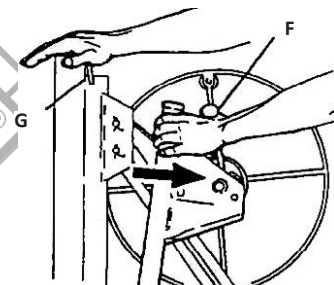

FIG. 4
- Place your right hand on top of the frame. Continue to grip the brake arm as necessary to prevent cable backlash (F) and pull the winch assembly all the way towards you. (Figure 4)
- When the winch is fully extended (away from the frame housing), release the brake arm and swing the retaining hook (G) away so that it no longer secures the telescopic sections inside the frame housing.